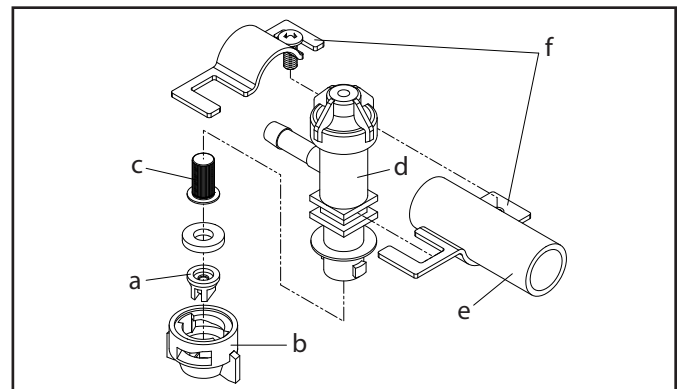

Figure 3: Nozzle assembly
5. The spray nozzle (a), spray nozzle cap (b), and tip strainer (c) then need to be installed onto the nozzle body (d) (Figure 3).
6. The recommended technique for mounting the nozzle body is on a piece of round or square tubing (e) with a boom clamp (f) (Figure 3).